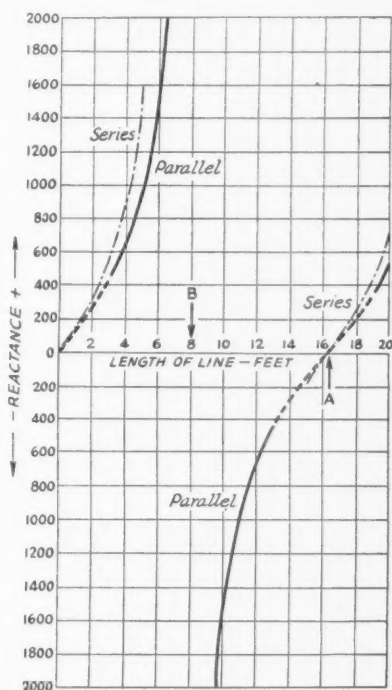

Fig. 5
to the shorting bar. The resulting curves should resemble those of Fig. 5, taken by this method. The parallel and series curves do not quite coincide, for the reasons just mentioned. The solid portions of the parallel curves represent regions in which measurements were possible, while the dashed parts are interpolated. Assuming that the parallel curves are more nearly correct than the series curves, the latter are useful for indicating the *shape* of the parallel curve in the regions where measurements were not possible with parallel tuning. The series curves could be made to coincide with the parallel curves by assuming a small additional capacity acting in parallel with the tuning condenser, an assumption which is justified by the fact that stray and distributed capacities do exist. This additional capacity would have to be of the order of only 1 or 2 micromicrofarads to bring the curves of Fig. 5 together.
As shown by the curves, the reactance of a short-circuited line is inductive and very low when the line length is small (in terms of wavelength). As the line length is increased the reactance increases until the length is a quarter wavelength (indicated at B in Fig. 5) when it is infinite. At this point the line may be connected directly across a parallel-tuned circuit without affecting its resonant frequency. Series tuning cannot be used in the quarter-wavelength region because it is impossible, with practicable components, to compensate for the large reactance introduced in series with the tuned circuit. As the line length increases beyond a quarter wavelength the reactance becomes capacitive — i.e., the line acts like a condenser — starting at a very high value of reactance and decreasing to zero when the line length reaches a half wavelength. At this point (A in Fig. 5) the line acts like a short-circuit, viewed from the input terminals, hence parallel tuning cannot be used. With series tuning, however, the resonant frequency of the tuned circuit itself will not be affected by connecting the line in series. Beyond a half wavelength the line becomes inductive again, and if the measurements could be continued it would be found that the behavior on succeeding quarter wavelengths is the same as on the first two quarter wavelengths.
Since a quarter-wave short-circuited line has infinite reactance at its input terminals, such a line can be connected across any circuit without affecting its tuning. By considering the line represented in Fig. 5 as a short-circuited quarter-wave line in series with an open-circuited line, the same curves also indicate the behavior of an open-circuited line. Then any length of line greater than  $\frac{1}{4}$  wavelength is equivalent to an open-circuited line  $\frac{1}{4}$  wavelength shorter than the actual length. For example, if the short-circuited line is 10 feet long, it is equivalent to an open-circuited line having a length equal to 10 feet minus  $\frac{1}{4}$  wavelength, so far as input re-
When a high-capacity, high-voltage condenser is needed for coupling from the plate of an audio-amplifier tube to its load, it is quite feasible to use an electrolytic condenser of suitable capacity and voltage rating as in Fig. 5-A, provided that
Fig. 5 — Audio circuits using electrolytic condensers. (A) Coupling audio tube to resistance load. (B) "Woofer-tweeter" cross-over circuit. In this instance, R1 should be 100,000 ohms, R2 10,000 ohms and condensers labeled C are 50-volt electrolytics.